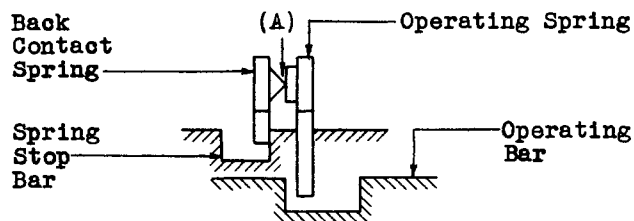

Fig. 15
2.11 Pressure of Operating Spring Against Back Contact Spring on Break and Transfer Spring Combinations - Figs. 15 (A) and 16 (A) - With the operating bar in the normal position, this pressure shall be: